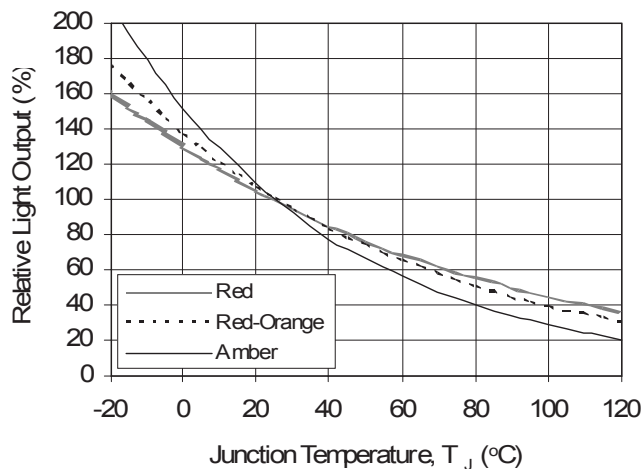

Figure 3. Relative Light Output vs. Junction Temperature for Red, Red-Orange and Amber.
2. Dynamic resistance is the inverse of the slope in linear forward voltage model for LEDs. See Figure 3.